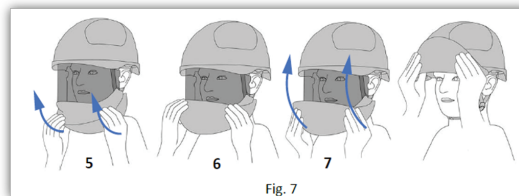

Fig. 7
2. In order to retract the face shield (Fig.7), first turn the chin cover outwards(5), until you hear a click of the chin cover hinges (6), and then slide the face shield into the helmet, by pushing it upward (7). Caution! Incorrect (not according to the instruction) use/opening/closing of the face shield may cause its damage. Do not press on parts of the face shield too hard and do not lower/retract it too fast.